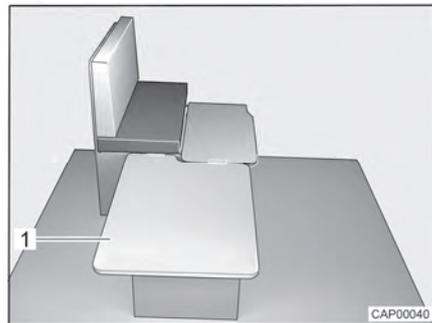

Fig. 52 During conversion
- Hook removable board (Fig. 52,1) in on the side of the bench and place it on the table.